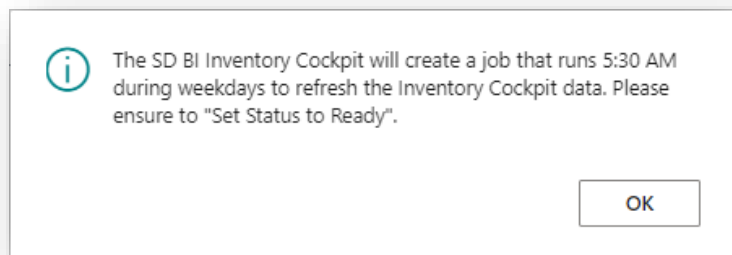

Figure 4-9
- Job Queue Entries** – Choose this action to create a Job to refresh the SD BI Inventory Cockpit data. To avoid processing overheads, this Job is set to run during weekdays at 5 a.m. (*Figure 4-9*). Alternatively, you can choose the Refresh action button on the SD BI Inventory Cockpit Role Centre during the day to refresh the data.